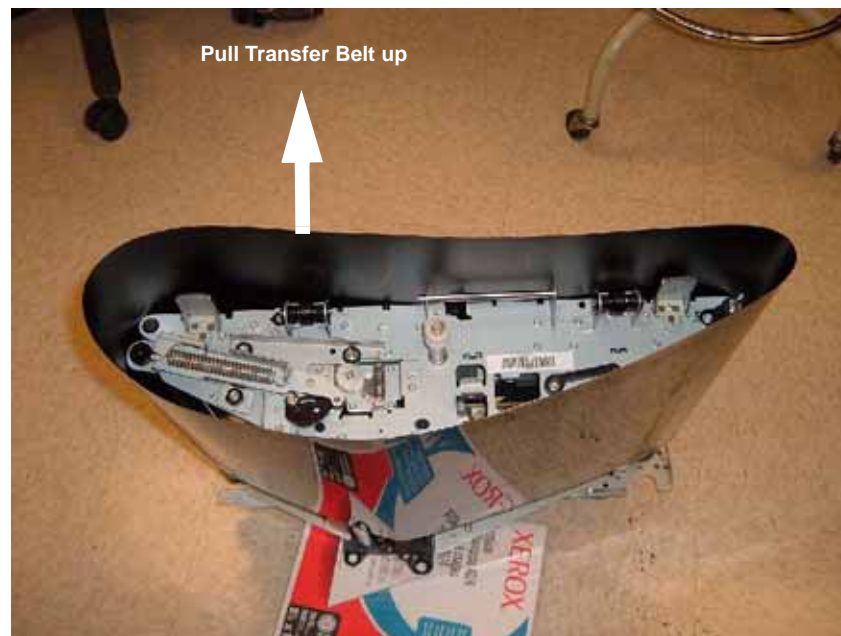

Figure 6 Removing the Transfer Belt
6. Remove the Transfer Belt (Figure 6).